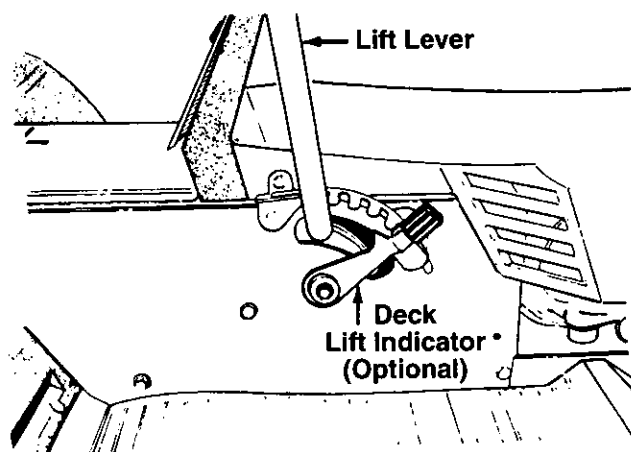

FIGURE 9.
**NOTE:** The lift lever *must* be in the BLADES OFF position when starting the engine, when shifting into reverse and if the operator leaves the seat. See figure 9.
If so equipped, the deck lift indicator marks the position being used for the lift lever. Select the lift lever position desired, press the indicator lever outward, move it to the position immediately below the lift lever and release the indicator lever. See figure 9.
2. Place the lift lever in the BLADES OFF position. See figure 9.